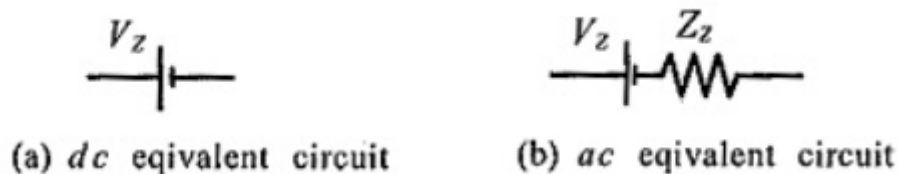

Fig.1.30. Equivalent circuit for Zener diode
- The dc equivalent circuit for a Zener diode is simply a voltage cell with a voltage V_Z , as in Fig. 1.30(a). This is the complete equivalent circuit for the device for all dc calculations.
- For the ac equivalent circuit [Fig. 1.30(b)], the dynamic impedance is included in series with the voltage cell. The ac equivalent circuit is used in situations where the Zener current is varied by small amounts.